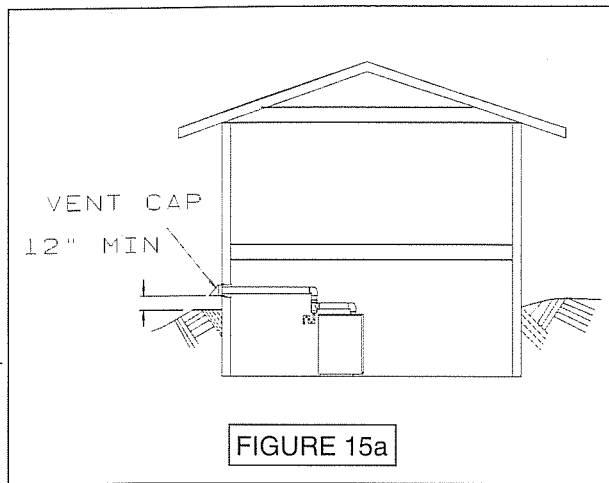
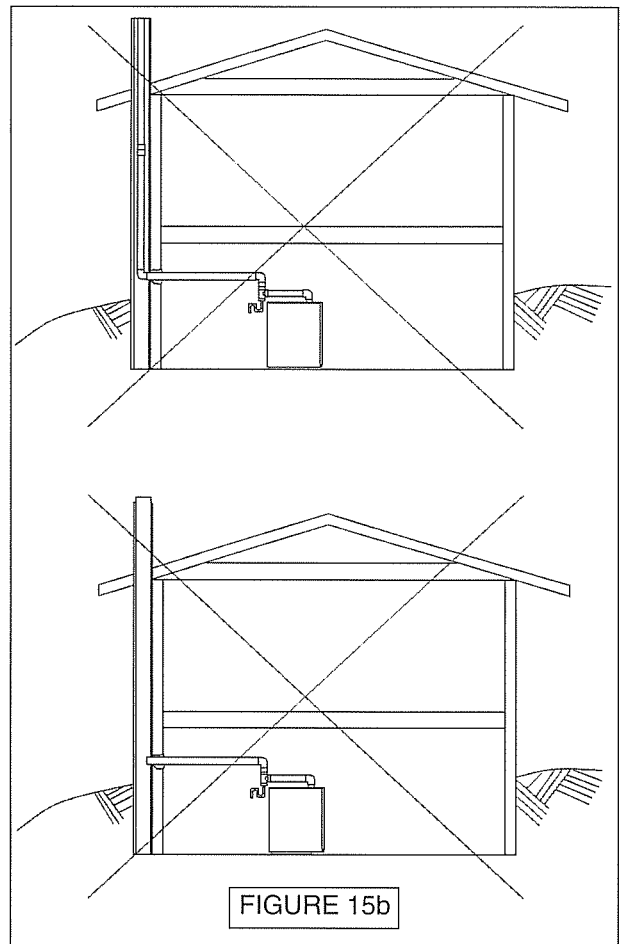

FIGURE 15a
FIGURE 15b
C. Vent pipe and fittings MUST NOT be routed into, through, or within any other vent, such as an existing masonry chimney or factory built chimney. (Recommended installation is shown in figure 15a page 13, unacceptable installation is shown in figure 15b page 13).